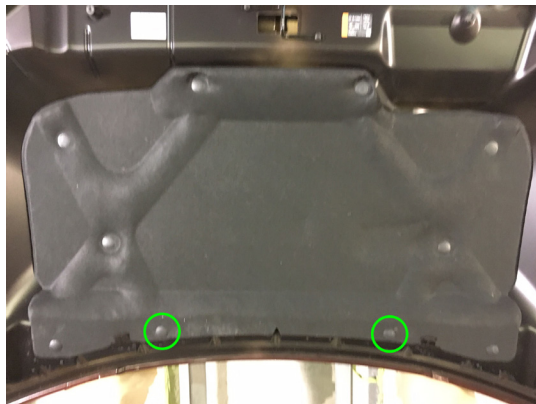

Figure 11
1. Cut out Hood Liner Marking template provided, and align circles indicated with the two central holes near the rear of the hood liner. (Figure 11)